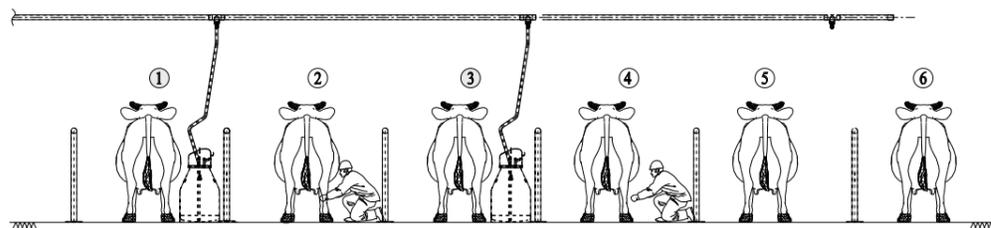

Figure 5.6: Prepare next 2 cows number 2 & 4 for milking while cow no. 1 & 3 being milked
Step-4: Prepare animal number ① & ①. Refer Figure 5.6.
- When cows number ① and ① are being milked, prepare cow number ① and ① as per suggested preparation routines, refer figure 5.1 and figure 5.6